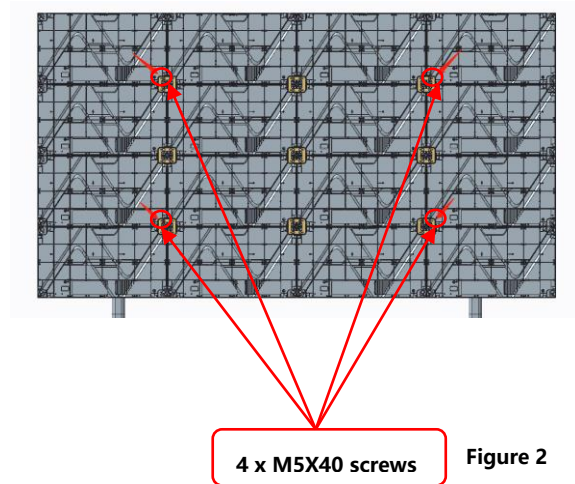

**Figure 1**
Install the box columns in the order of 2-3-1-4, with the hook connectors on the back of the box hooked into the grooves in the backstay beam profiles. Move the box so that it is centered and aligned with the marking line on the crossbeam (as shown in Figure 1), install the box columns in order and lock the left and right connecting bolts on the box (as shown in Figure 2).
Step 3: Using 30 M8X20 fixing screws to install the box within the leveling connection piece (as shown in Figure 1), use 4 M5X40 screws to install the box security screws, to ensure that the screen will not move from side to side (as shown in Figure 2 Note: Fixed corners can be)